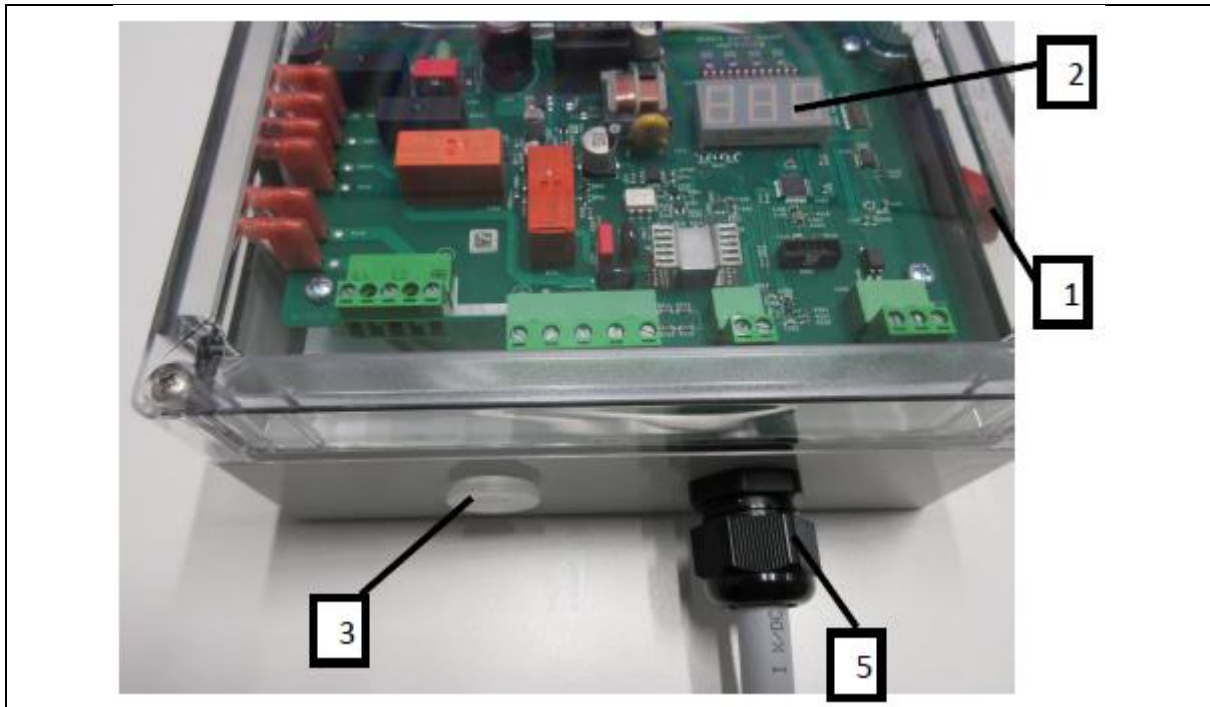

Fig. 8: Control unit - outside
Once the power supply is connected and the main switch is switched on (see item 1, Fig. 8), the machine is ready for operation after around 20 seconds. The machine indicates its readiness for operation by displaying 3 lines in the display. (see Fig. 7)